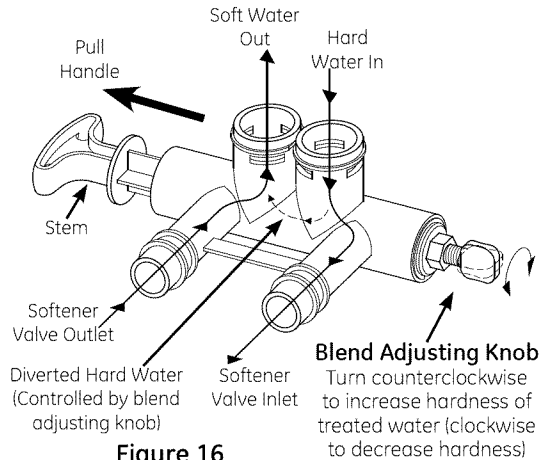

Figure 16
The blend adjusting knob (Figure 16) gives the ability to finely adjust hardness of the treated water leaving the water softener. If slightly harder water is desired than is normally delivered by the water softener, the blend adjusting knob can divert a small stream of hard water and blend it with the soft water entering the home. The amount of water diverted is controlled by turning a blend adjusting knob on the end stem.
1. Hold bypass handle to keep the valve stem from rotating (see figure 16). Loosen hex nut on blend adjusting knob by turning the hex nut counterclockwise.
2. **TO INCREASE HARDNESS:** With the bypass in the service position (see figure 16) hold the handle to keep the valve stem from rotating and turn the blend adjusting knob counterclockwise up to 2 turns from the closed position. It is recommended that adjustments be made in quarter turn increments over several weeks until the desired hardness is achieved. **NOTE:** Once an adjustment is made to the blend valve knob the change in water hardness at the homes faucets or shower heads may take several days to be noticed. This delay is due to the large amounts of already conditioned water in the pipes and water heater that must be exchanged before a change in hardness can be noticed. Have the water tested to determine the actual water hardness.
3. **TO DECREASE HARDNESS:** With the bypass in the service position (see figure 16) hold the handle to keep the valve stem from rotating and turn the blend adjusting knob clockwise. When the knob will not turn anymore, hard water is no longer being blended into the soft water.
4. Once the desired hardness is achieved tighten the hex nut (see figure 16) clockwise until it comes in contact with the bypass stem.